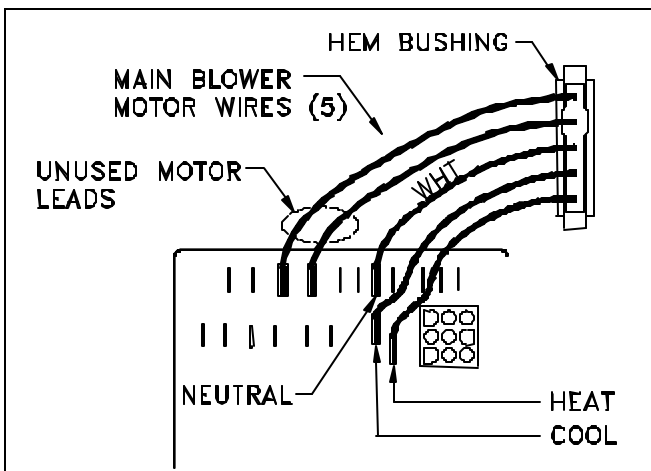

Figure 22. Main Blower Speed Selection.
1. To change cooling speed, move desired motor lead to terminal marked 'COOL' on Fan Timer. See Figure 22. Initial factory setting for cooling is high speed (black wire).
2. To change heating speed, move desired motor lead to terminal marked 'HEAT' on Fan Timer. See Figure 22. Factory setting for heating is listed in Table 9. Heating speed should not be reduced below factory setting.
3. Connect two unused motor leads to terminals marked "UNUSED MOTOR LEADS" on Fan Timer. See Figure 22.